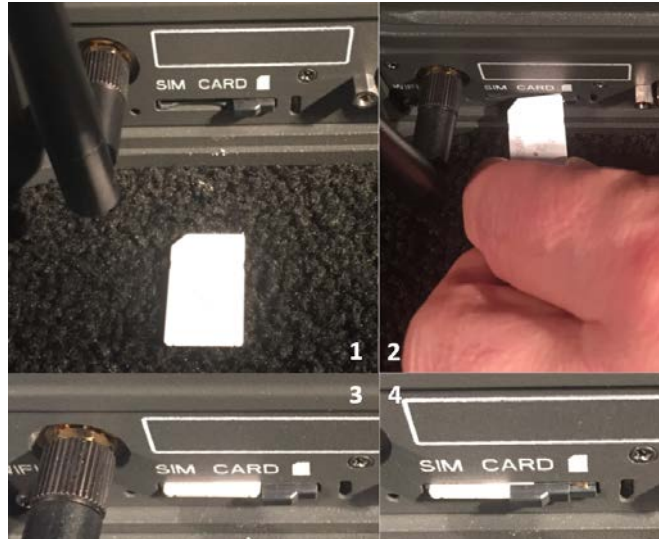

Figure 2-8 Installing SIM Card and Engaging the Lock
- b. Install SIM card from Air-time provider (1, Figure 2-8), by inserting the card with contacts down (2) until it clicks into place (3).
- c. Be sure to engage the lock for the SIM Card (4).